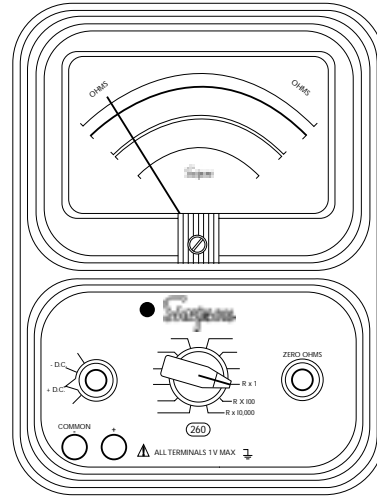

Figure 4-13. Jacks and Switch Positions for Measuring Resistance
- b. Set the range switch to one of the resistance positions as follows (Figure 4-13):
- Refer to Paragraph 4.12, Figure 4-13 for measurements of circuit resistance, if any, that exists.